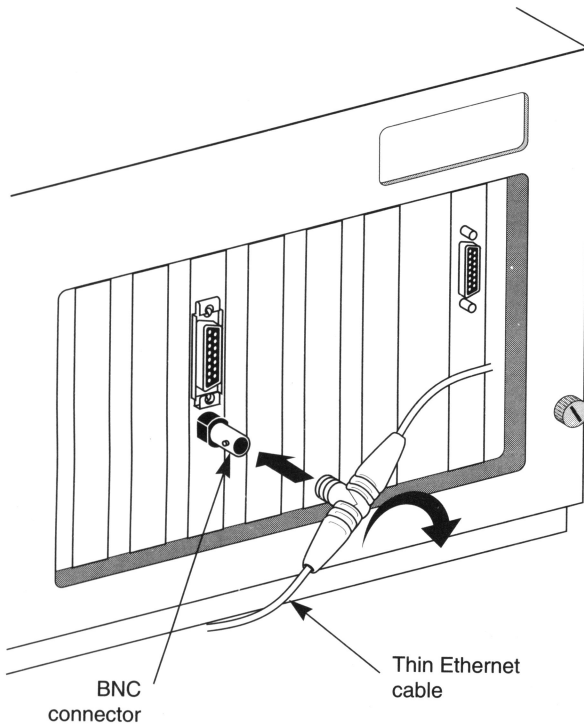

Figure 5-2. Connecting Thin Ethernet Cable
3. **Connect the T connector to the adapter's BNC connector (see Figure 5-2).**